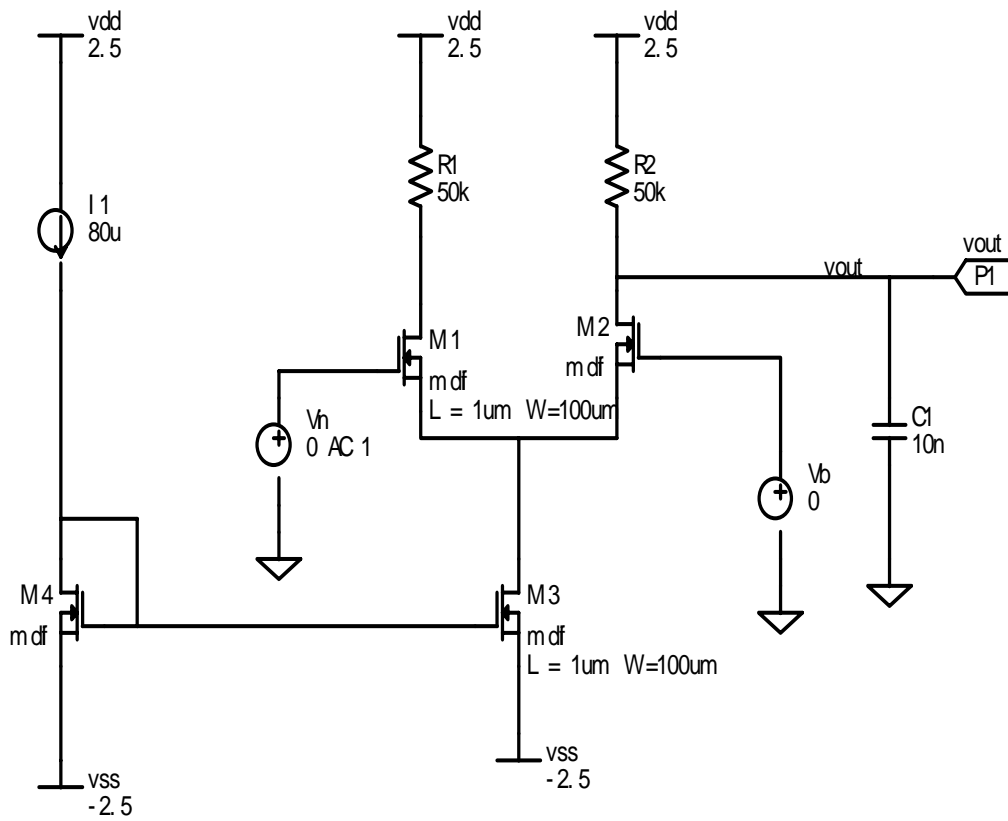

Figure 2. Differential pair amplifier
2. Compare the common source behavior to the MOS differential pair amplifier circuit in Figure 2, as shown on the last page. Compare DC, AC, and transient behavior.